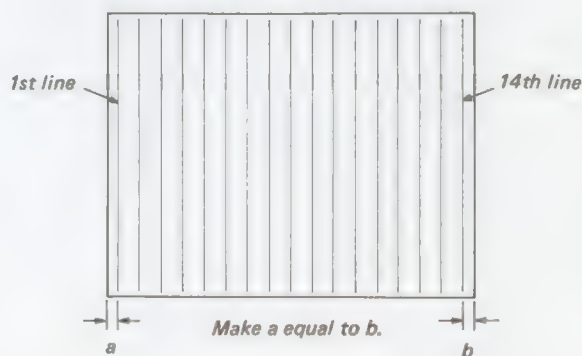

Fig. 5-121.
- (5) Set up the UNDERSCAN mode.
- (6) Make the BVM-1201 show 17 V. lines. Adjust the HORIZONTAL POSITION of the signal generator so that the space between the effective picture edge of the picture tube and the first line is equal to the one between the edge and the 14th line. (See Fig. 5-121.)
- (7) Adjust L6 (H. LIN) on the E board so that the center line of the 14 lines (9th line from the left or the right) comes on the mechanical center of the picture tube.
- (8) Set up the NORMAL mode.
- (9) Put the linearity center gauge on the mechanical center of the picture tube. Perform the following adjustments while watching the gauge.
- (10) Turn RV4 on the E board for matching the H. center.
- (11) Turn RV6 (H. SIZE) on the E board for matching the right side of the screen.
- (12) Turn L6 (H. LIN) on the E board for matching the left side of the screen.
- (13) Repeat Steps (2), (3), and (9) through (12) for tracking.